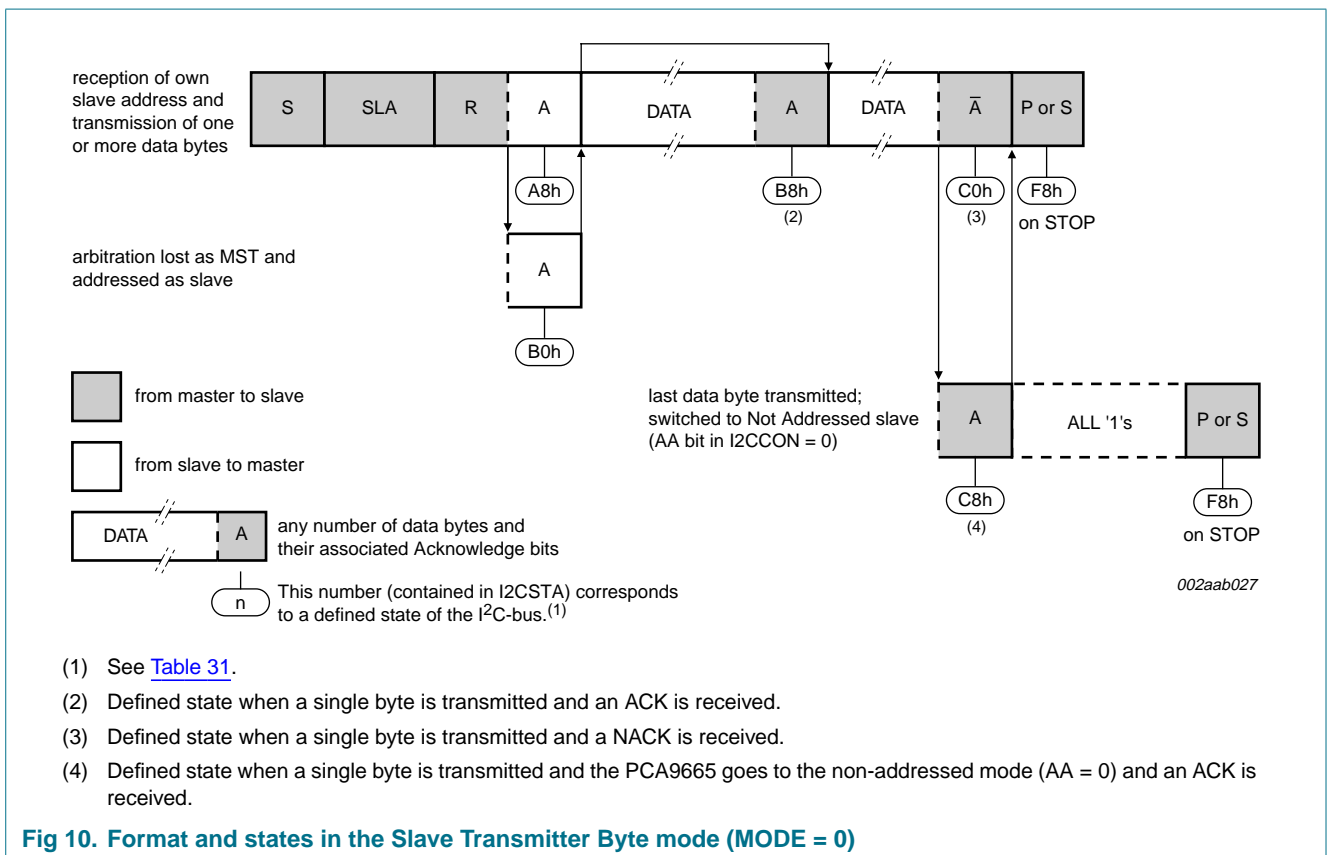

Fig 10. Format and states in the Slave Transmitter Byte mode (MODE = 0)
In the Slave Transmitter Byte mode, a number of data bytes are transmitted to a master receiver one byte at a time (see Figure 10). Data transfer is initialized as in the Slave Receiver Byte mode. When I2CADR and I2CCON have been initialized, the PCA9665 waits until it is addressed by its own slave address followed by the data direction bit which must be '1' (R) for the PCA9665 to operate in the Slave Transmitter mode. After its own slave address and the R bit have been received, the Serial Interrupt flag (SI) is set, the Interrupt line (INT) goes LOW and I2CSTA is loaded with A8h. This status code is used to vector to an interrupt service routine, and the appropriate action to be taken is detailed in Table 32.